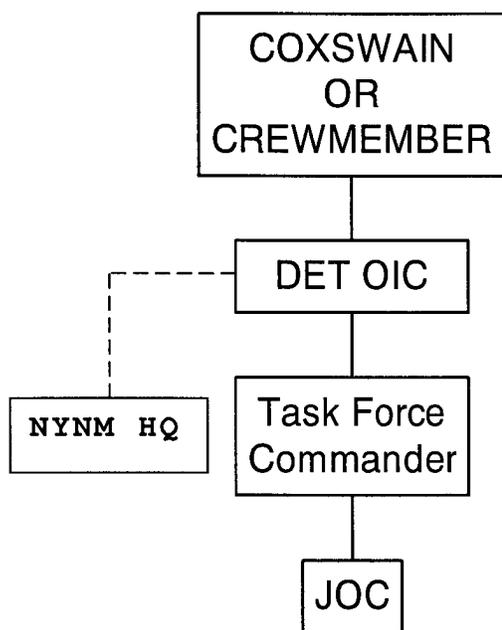

Figure 10-1
b. Accidents / Incidents: Notifications in the event of accidents / incidents will be made in accordance with the following flow charts. If the event occurs during an operational mission, see Figure 10-1. If the event occurs during training, see Figure 2-2. For each event the standard JOC Incident/Accident form will be submitted following the verbal notifications.